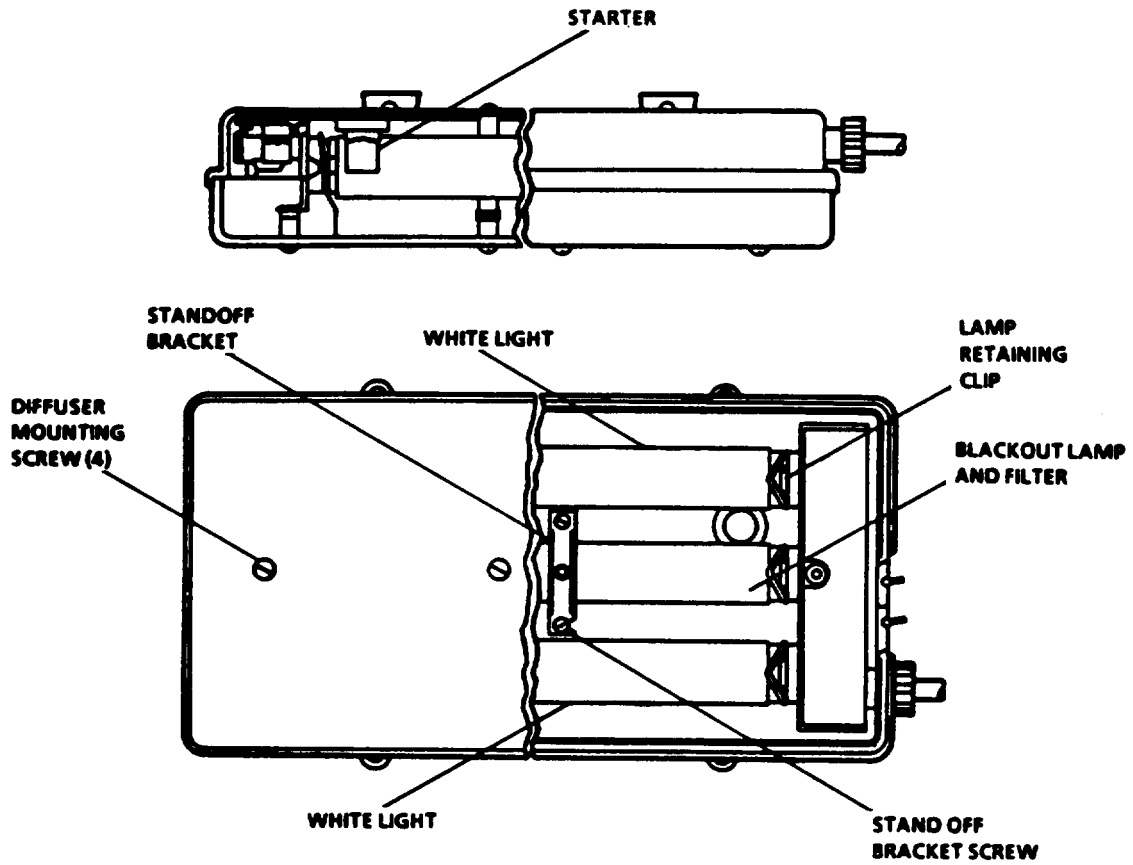

Figure 3-1. Fluorescent Lamp and Starter
2. **Remove Fluorescent Lamp Starter. (Figure 3-1).**
1. Install Fluorescent Lamp. (Figure 3-1).
2. Install Fluorescent Lamp Starter. (Figure 3-1).